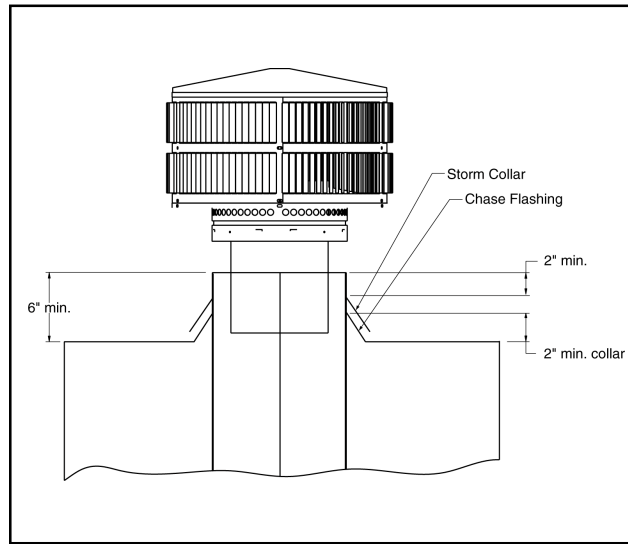

Figure 21 - Installing a TR344 Round Termination Cap
- Install the chimney sections up through the chase enclosure. When using a TR344 round termination cap, the uppermost top section of pipe must extend 6" above the top of the chase collar to allow installation of the storm collar and termination cap. See Figure 21.